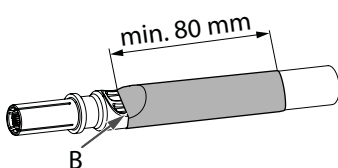

Fig. 34:
1. Cut the heat shrink tube to the required length (at least 80 mm) plus 5-10 % heat shrink tube allowance (Fig. 34). In doing so ensure the cut edges are even.
2. Push the heat shrink tubing onto the cable and contact so that the end is positioned centrally within the crimping area on the contact (Fig. 34/B). Prevent any creasing.